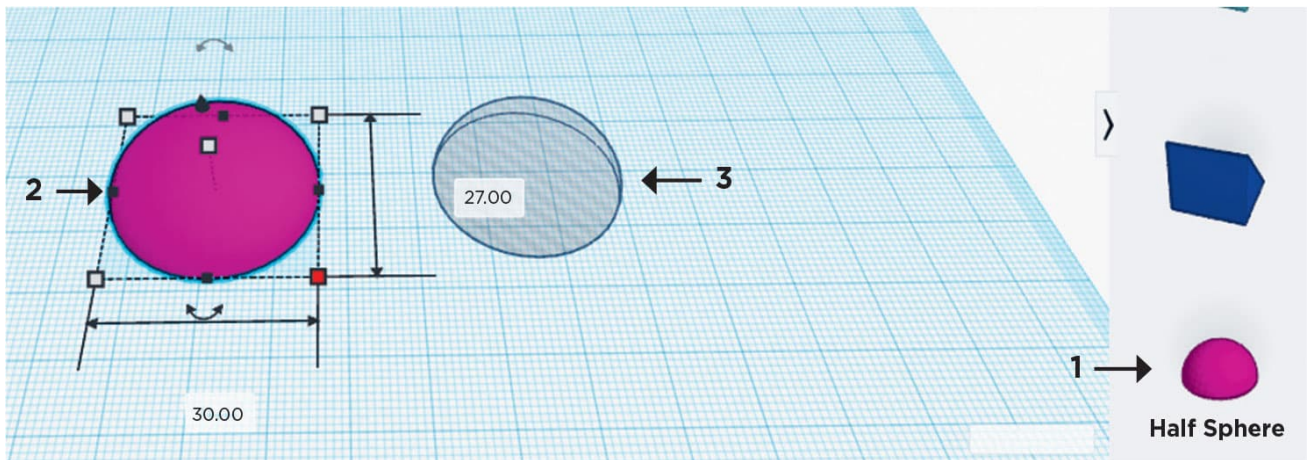

FIG. 1: Create one solid half-sphere and one half-sphere hole for the dome-shaped section of the pasta spoon.
1. Using a **Half Sphere** tool, create two half spheres. The large solid-half sphere is about $30\text{ mm} \times 30\text{ mm}$, and the smaller one is a hole that is about $27\text{ mm} \times 27\text{ mm}$ and shown in fig. 1.